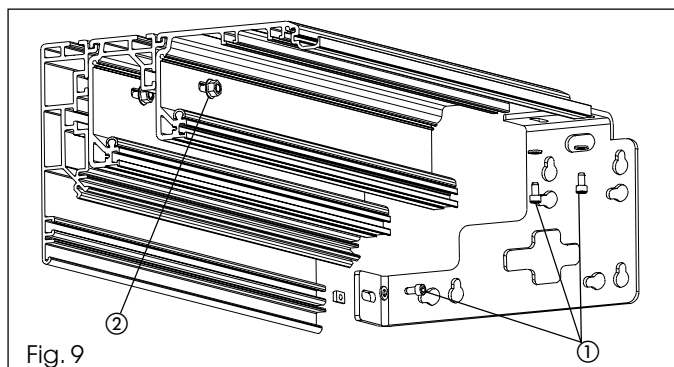

Fig. 9
The automation head profile with the free-standing profile can be secured at the two ends by using the side brackets accessory (fig. 9).
•Position the small plates in their seats and secure the side plates with the three M6 fixing screws (fig. 9 ref. ①).
•Tighten the tie-rods in their seats with the relevant nuts (fig. 9 ref. ②).